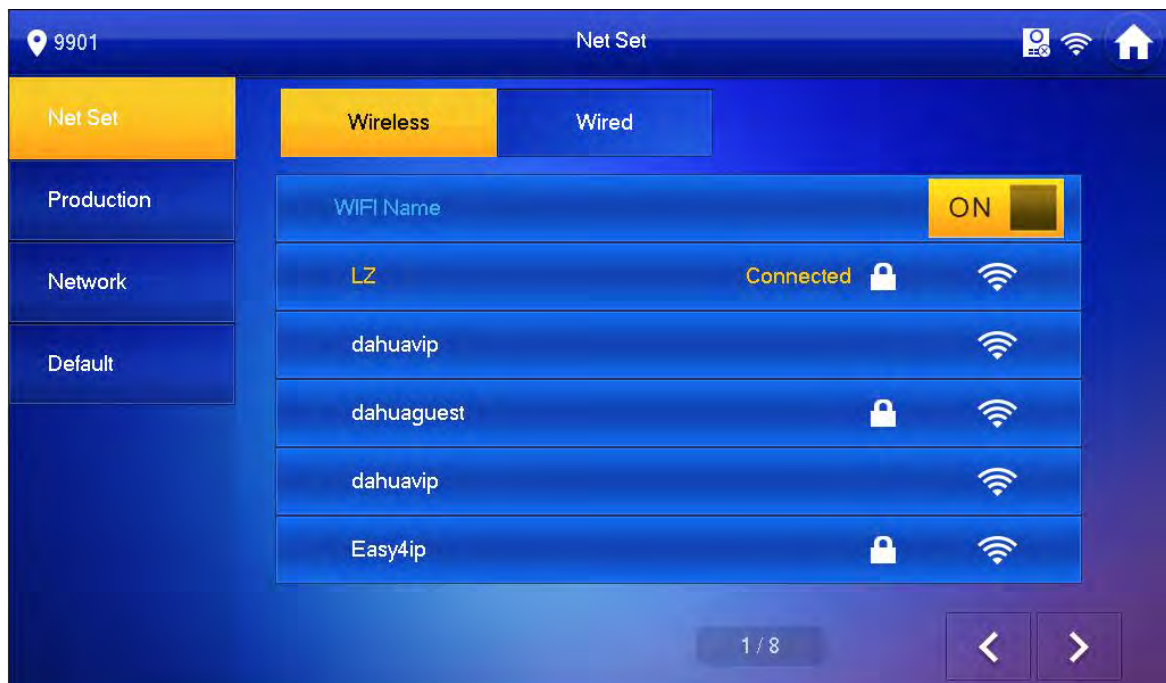

Figure 4-3
1. Select Wireless, open WLAN, view available WI-FI. See Figure 4-3.